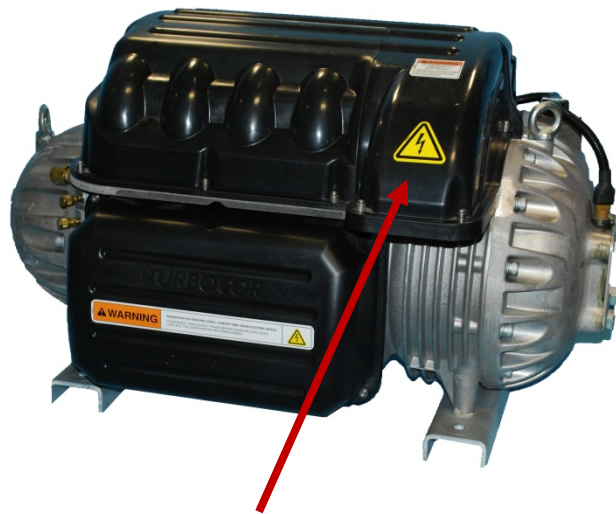

Figure 1 Mains Input Cover
3. Remove the mains input cover. Remove the Mains Input cover. See Figure 1.